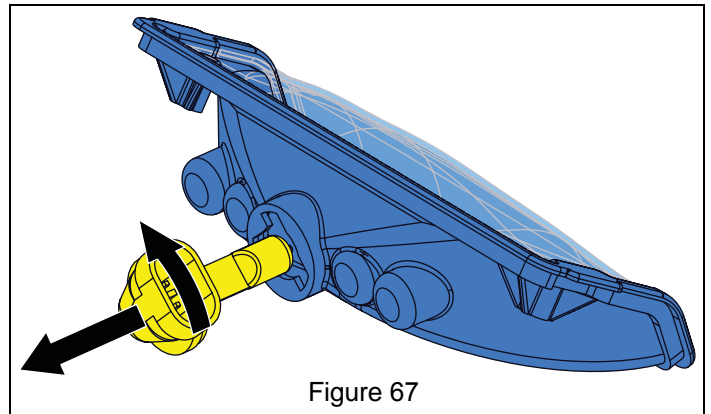

Figure 67
6. Turn bulb one-eighth turn counterclockwise and remove from headlight housing. See Figure 67.